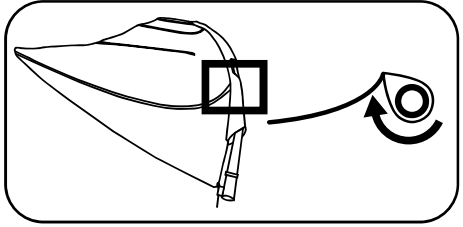

Figure 3: Downhaul slowly until the front of the foot batten “pops” to the other side of the mast.
c) Begin downhauling slowly while observing the front of the foot batten. Continue downhauling just until the front of the foot batten “pops” to the other side of the mast (figure 3) and then stop downhauling.